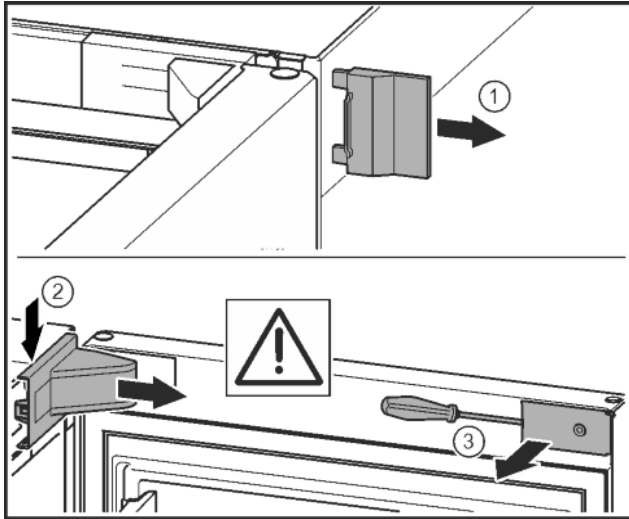

Fig. 8
- ▶ Remove the outer cover. Fig. 8 (1)
- ▶ Click and release the bearing bracket cover. Remove the bearing bracket cover. Fig. 8 (2)
- ▶ Unlatch the cover plate with a slotted screwdriver and swivel it to one side. Fig. 8 (3)